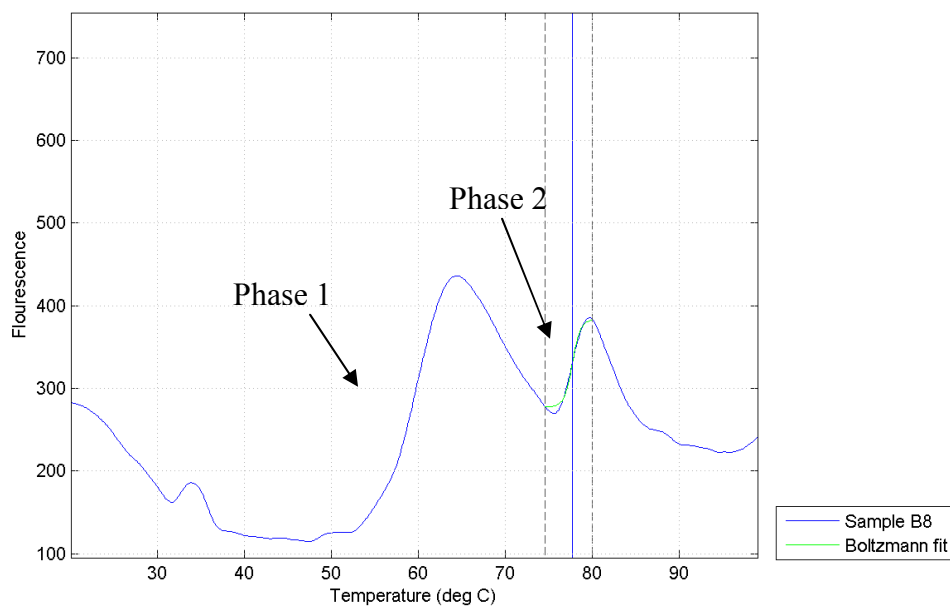

Figure 12: Multiple melt phases
- Observation: If there are two melt phases, with one rising to a higher magnitude than the other (Figure 12), the auto selected region of analysis will still select the region of the steeper rise, even if it has a smaller magnitude. Possible cause: The tool is programmed to select the *steepest* contiguous region of rise in fluorescence. Solution: If this is not the desired behavior, it is possible to define a different region of analysis following the instructions in section 4.11.